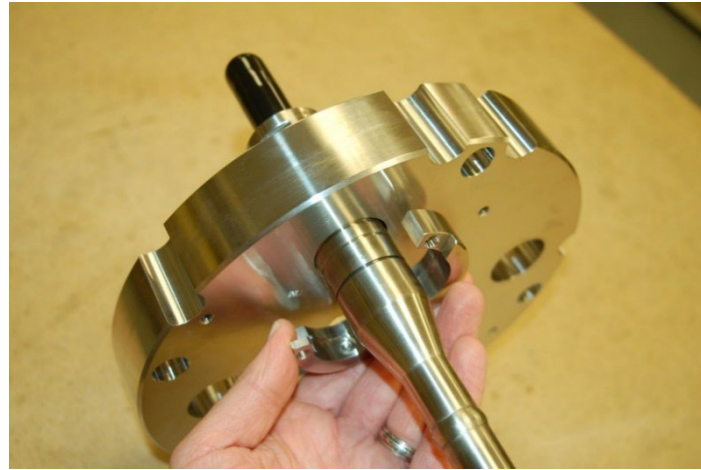

Figure 74: Coupler Assembly Step 3
- 26.5.8 Position C-clamp over the end of the coupler such that the groove and ridges match to hold the coupler in place. Refer to Figure 74.